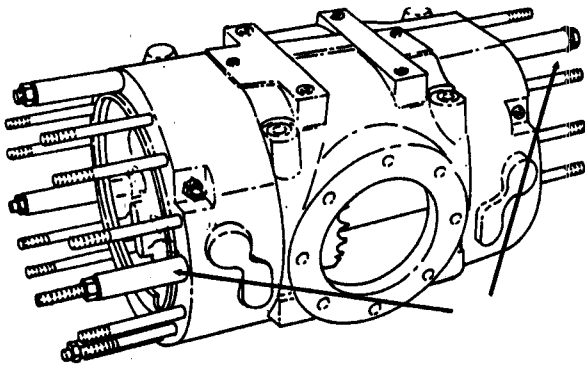

Figure 10.
12. Clamp three sections together by using four tubes and nuts each side (Figure 10) and torque tighten to 18 lb-ft. (25 Nm).